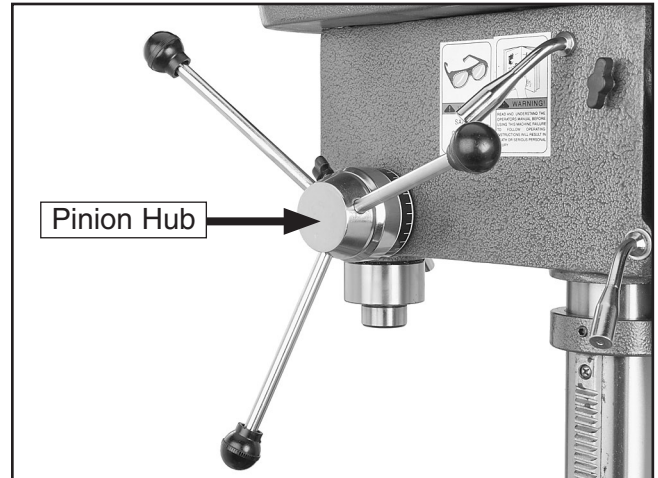

Figure 13. Downfeed handles installed.
9. Thread the downfeed handle shaft assemblies into the pinion hub (**Figure 13**).